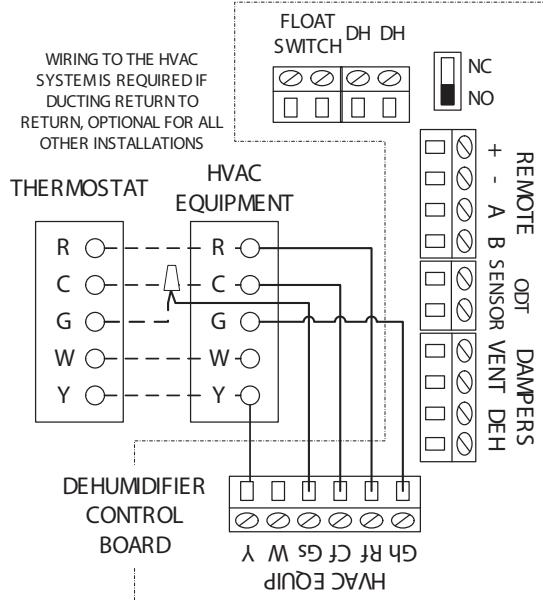

Figure 3 Wiring (shown with “disable with AC” feature being used)
Figure 3), and measuring the relative humidity (RH) once every hour. Sampling will also occur when the RH setting is lowered using the UP or DOWN buttons on the control.